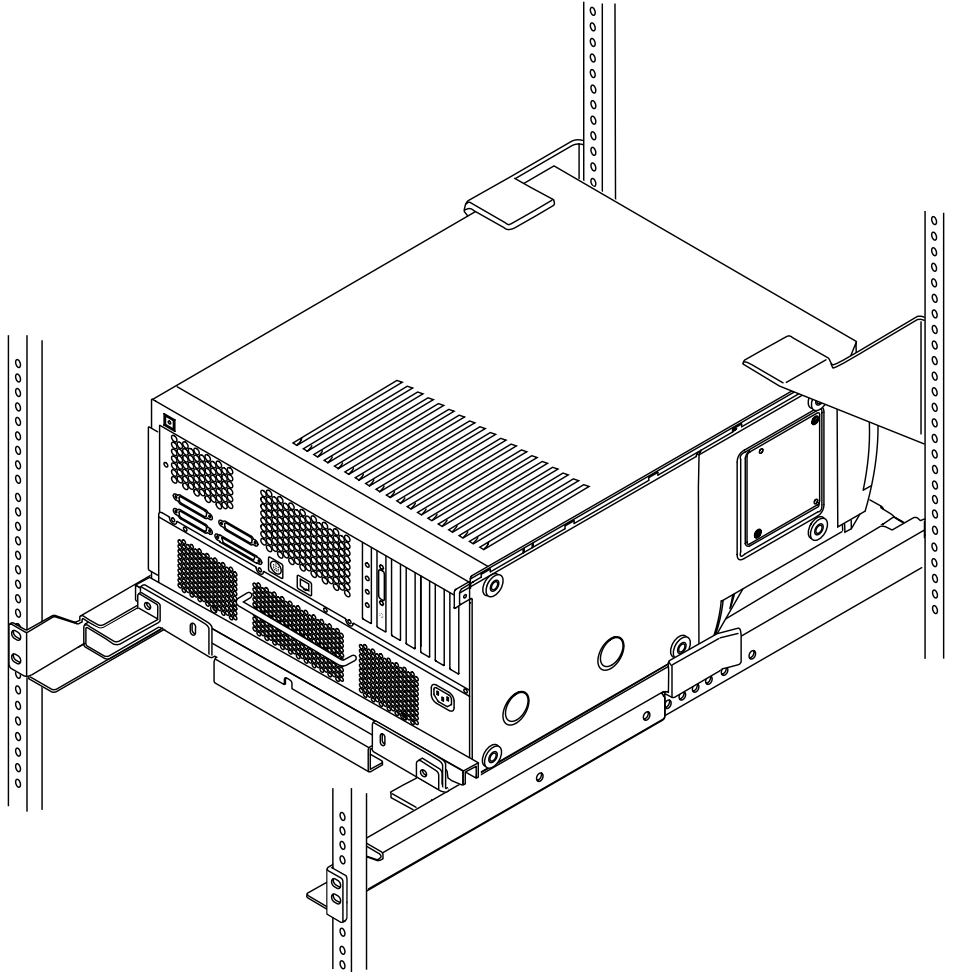

FIGURE 23 Ultra 80 System Installed and Ready for Cabling
9. Connect power and other cables as needed (FIGURE 23).